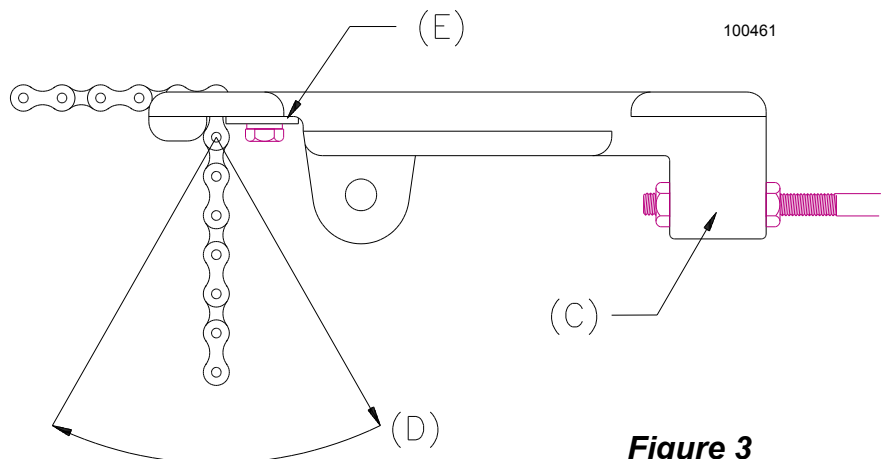

Figure 3
- 3) Referring to Figure 1, 2 and 3 (below), slide the trolley onto the track with the chain take up bolt lug (C) toward the power head. Thread one 3/8-16 keps nut (attached star washer) onto the Chain take up bolt with the keps part (attached star washer) away from the chain attachment end. Insert the chain take up bolt threaded end through the lug hole on the trolley (C) just far enough to start a second 3/8-16 keps nut. Attach one end of the chain to the opposite end of the threaded stud using a 3-piece chain link (provided). See Figure 3.